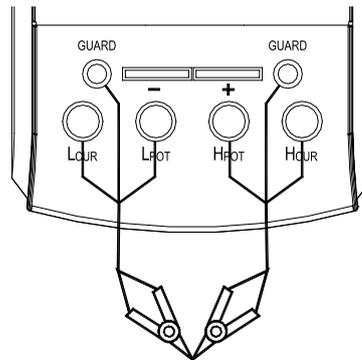

Figure 7
- When using  $L_{CUR}/L_{POT}/H_{POT}/H_{CUR}$  terminals, insert the black and red testing lines with alligator clip into the "LCUR", "LPOT" terminal and "HCUR", "HPOT" terminal respectively. Connect the mouth of clips. (shown in figure 7).